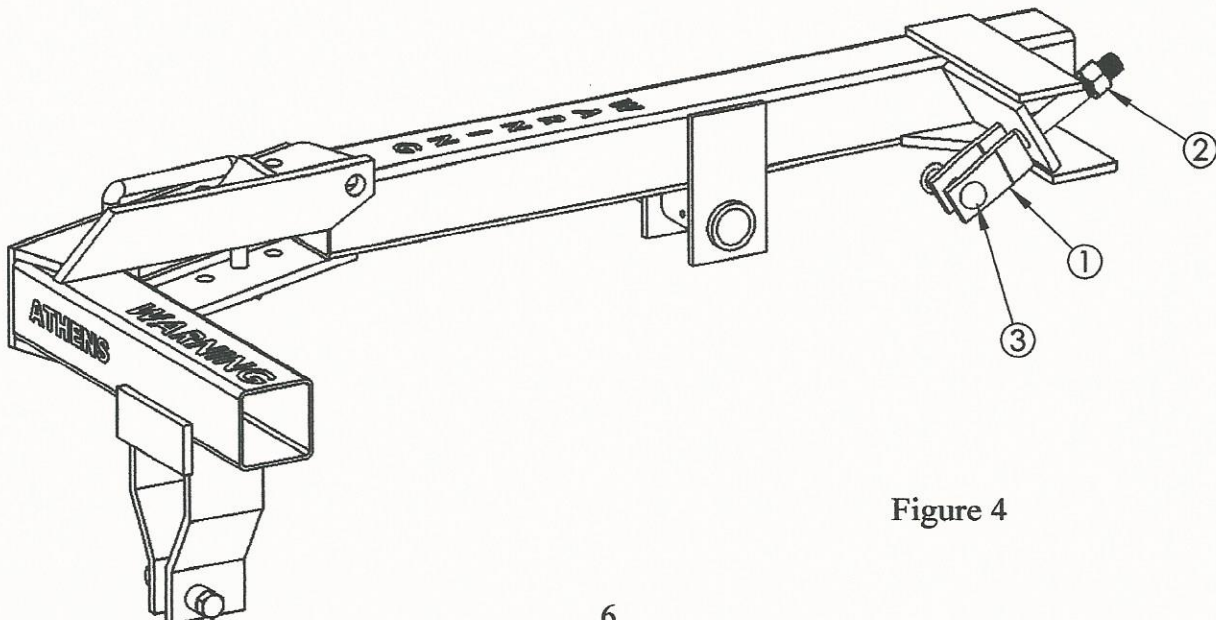

Figure 4
E) To Attach Mechanical Transport (Refer to Figure 4)
- 1) Attach Mechanical Transport (1) using 1" Hex Nut (2). Make certain that the $\frac{3}{4}$ x 2 $\frac{1}{2}$ " Rivot Bolt (3) with the Hair Pin Clip is inserted in the Transport.